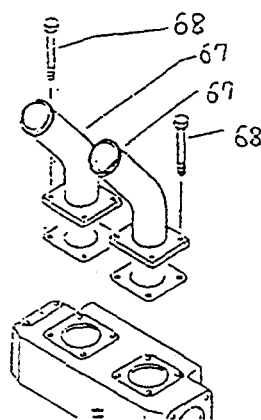

Fig. 36
⑤ Change of engine water outlet connector on D475A-2 (Fig. 36)